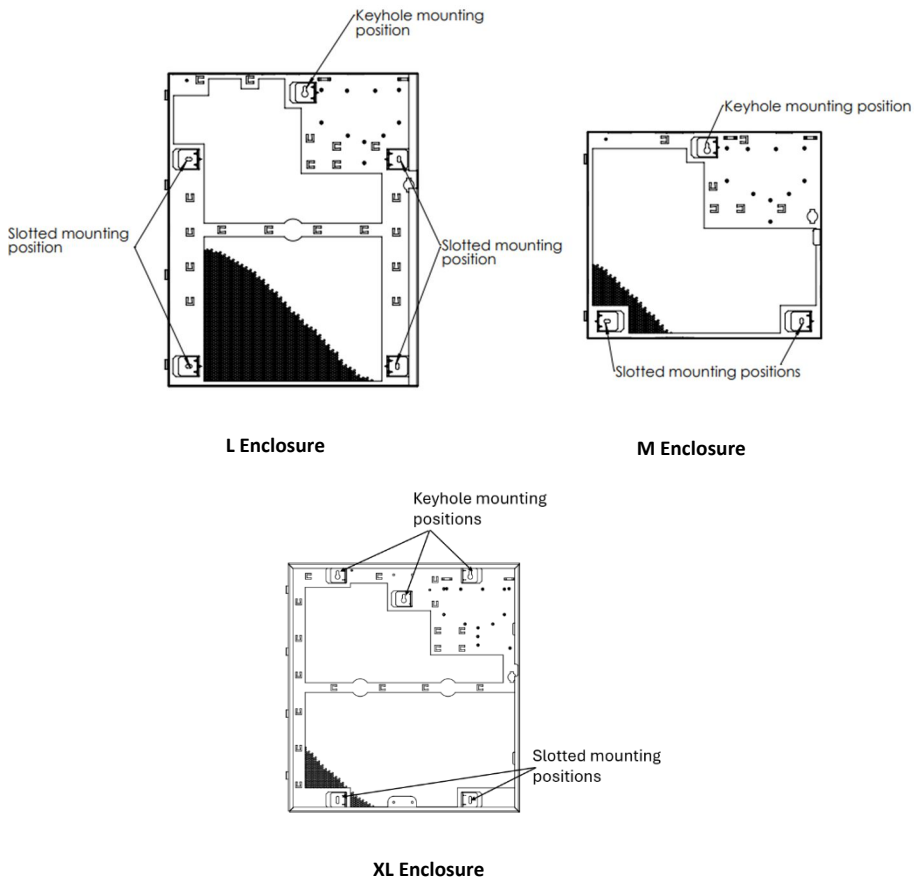

Figure 2: Enclosure mounting points
- Mount the enclosure securely using 5mm diameter x 25mm minimum long screws that are appropriate for the mounting material. Mounting positions for each enclosure are shown in Figure 2